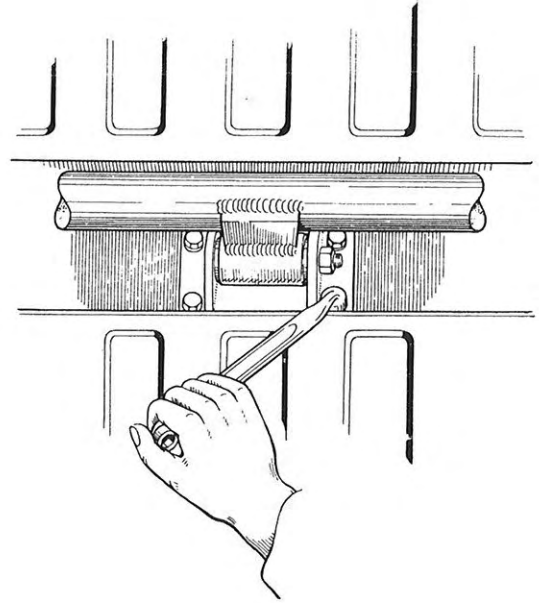

Fig. 32. Detachment of rear axle bearing bracket
9. Detach rear axle bearing bracket from body, see Fig. 32.